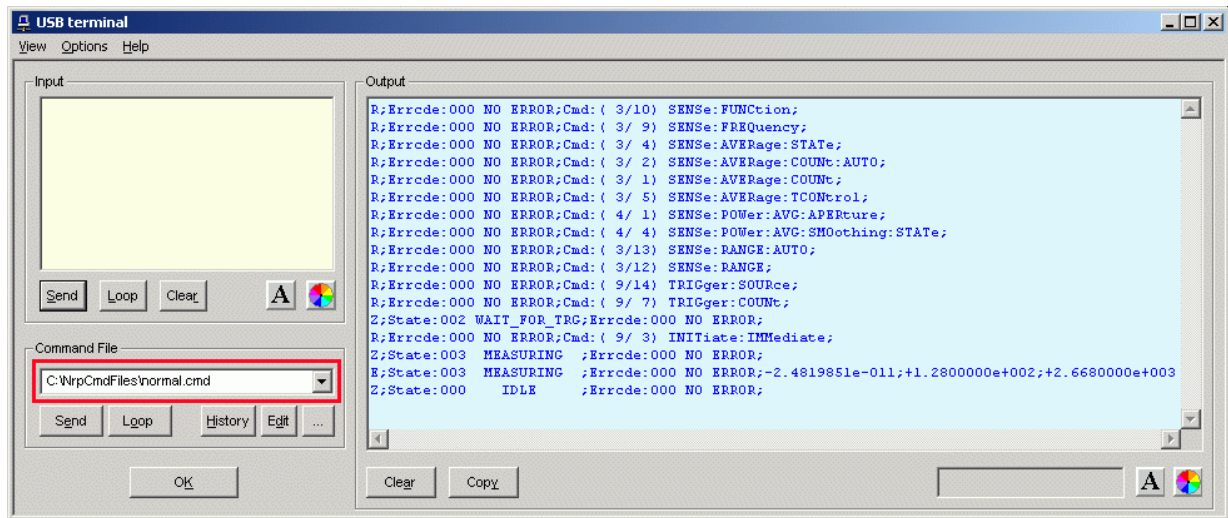

Fig. 3-2 Sending commands using command files
| Fig. 3-2 | Sending commands using command files .....                                      | 3.2  |
- Commands or command sequences are stored in *command files*. Command files are created with a text editor, for instance, and then stored. They can be called as often as required (Fig. 3-2). The buttons of the **Command File** field are described in Table 3-2.